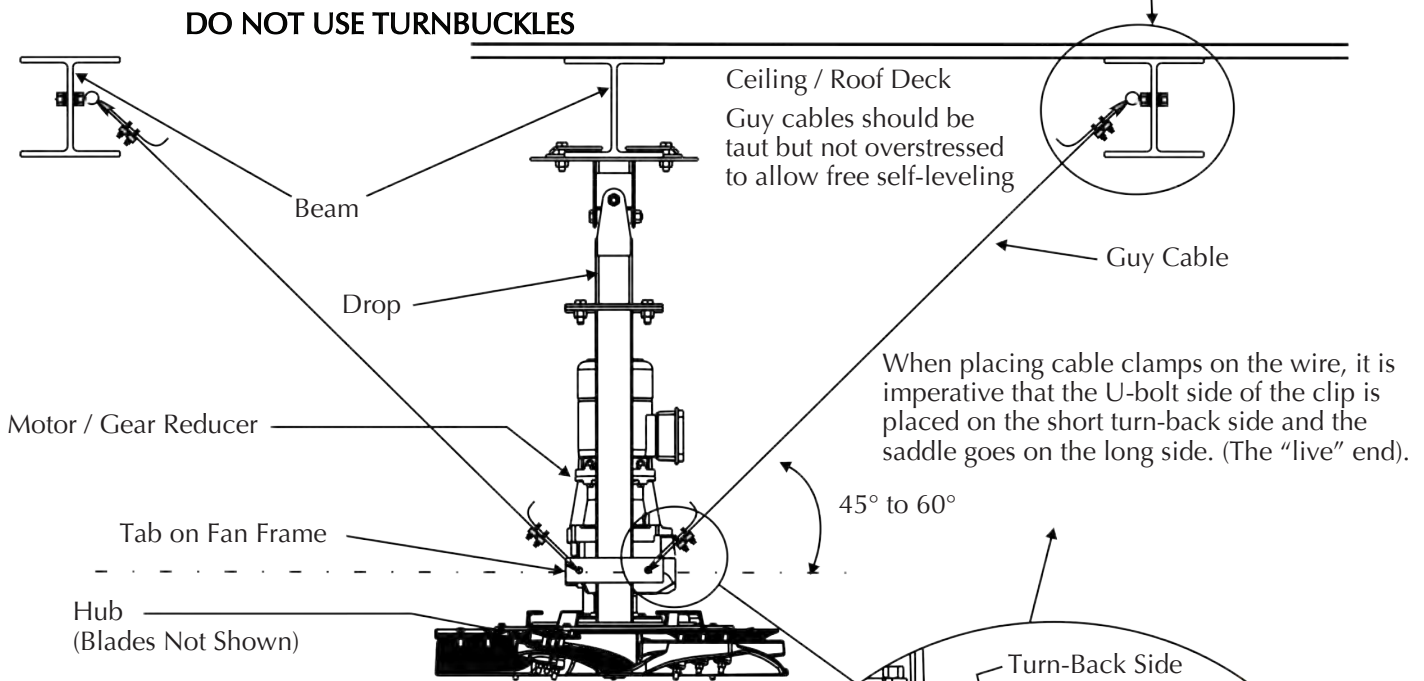
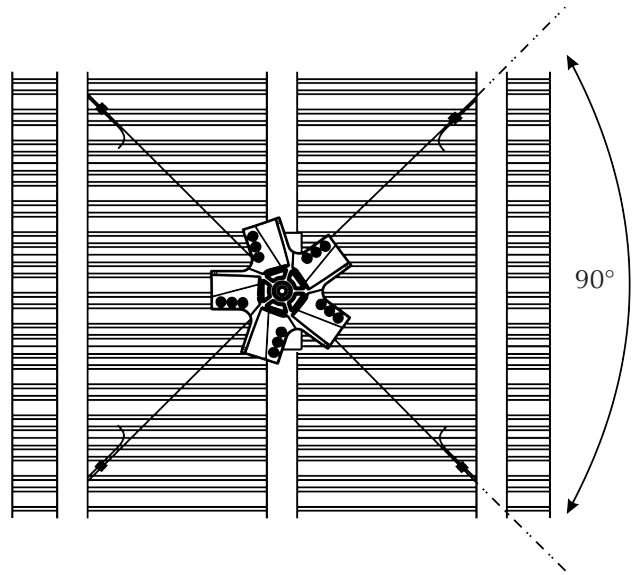

FIG.15
FIG.17
STRUCTURAL NOTE: Guy cables must be installed or fastened to a structural component of the building at the angle shown in Fig.15 and Fig.17.
2. Install eye bolt with nuts and washers in I-Beam as per Fig.15.
5. Guy wires should be taut but not over-stressed to allow free self-levelling. They should also be approx. 90° apart (Fig.17).